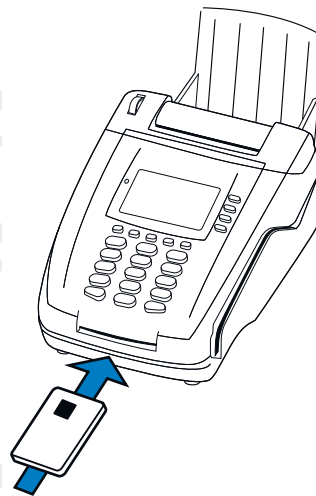

Figure 45 Inserting a Smart Card
- 1 Position a smart card with the contacts facing upward (see Figure 45).